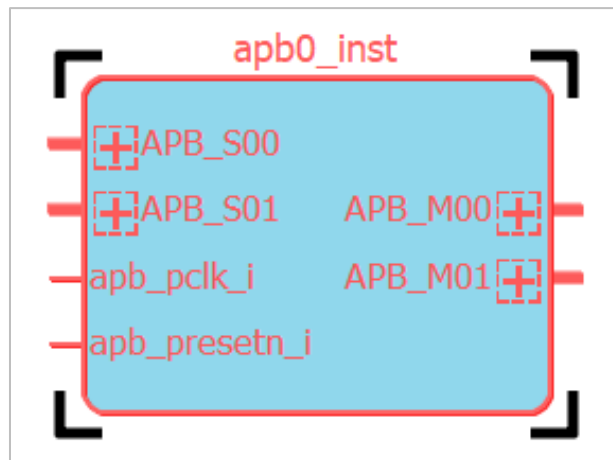

Figure 2.68. Select Module
1. Select the desired module block. The block is highlighted in red with black corners (Figure 2.68).